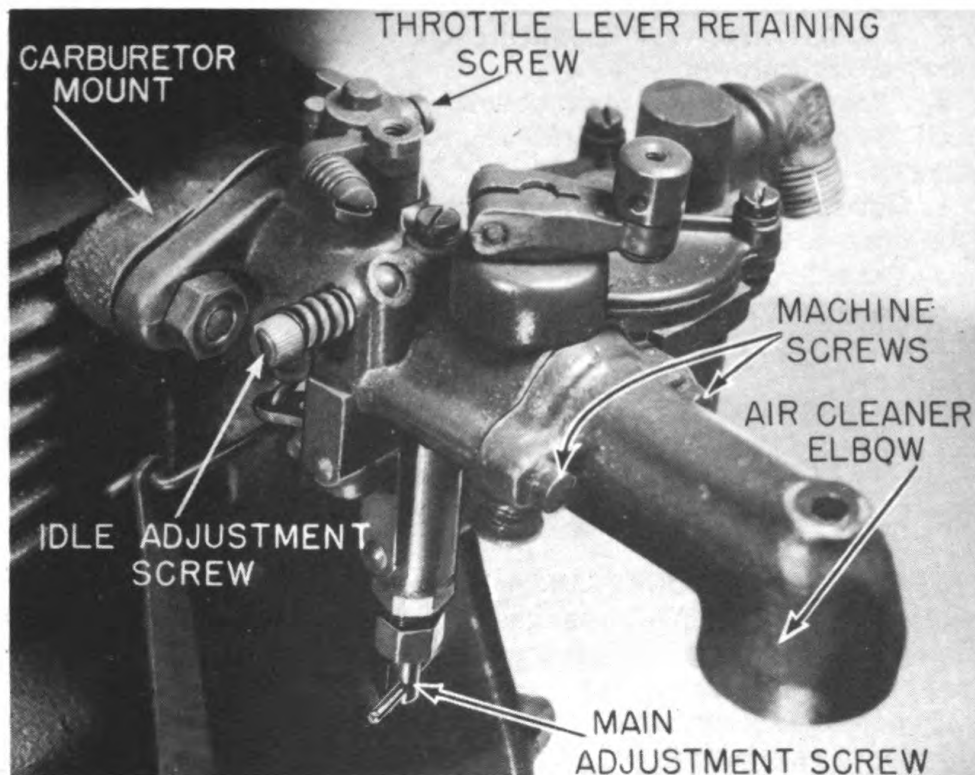
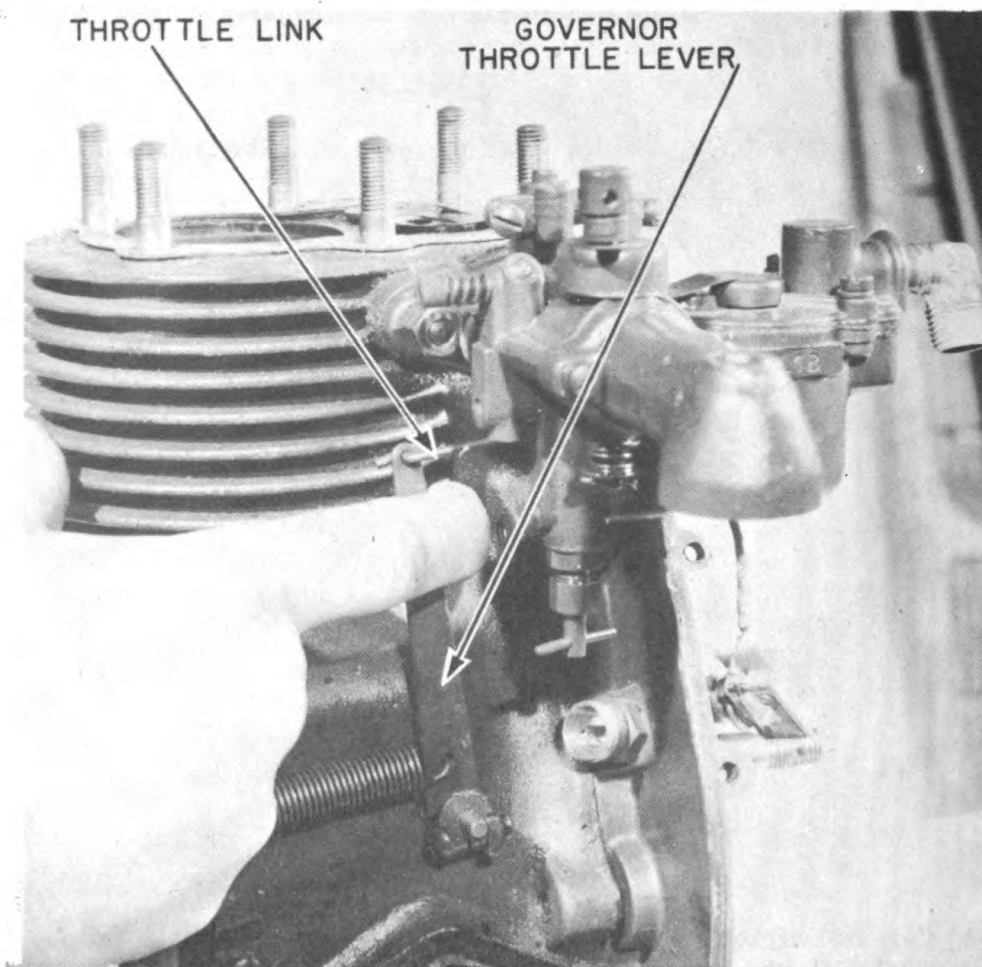

Fig 57. Carburetor and related parts.
Fig 65. Adjusting governor throttle lever.
- c. Detach air cleaner elbow and air cleaner mounting gasket from carburetor by loosening two machine screws holding elbow to carburetor. (Fig 57)
- d. Remove carburetor by loosening two hex nuts by which it is held to carburetor mount of engine cylinder block (fig 57). (Use 7/16-inch open-end wrench.) To remove carburetor, it is necessary to detach throttle link between flange of throttle shaft and governor throttle lever (fig 65). Take care not to lose throttle link.
(Fig 57) Proceed as follows:
- b. Replace throttle link (fig 65). Be sure link is inserted in outer hole of throttle shaft flange.
- a. To remove, loosen throttle lever retaining screw and lift lever off throttle shaft. (Fig 57)
- b. To install, place new lever on shaft and tighten retaining screw. (Fig 57)
- a. Close main adjustment screw (fig 57) by turning clockwise until it seats lightly (do not force), and then open same screw one full turn counterclockwise.
- b. Screw in idle adjustment screw (fig 57) until it seats and then open $3/4$ of a turn.
If engine underspeeds, tighten governor throttle lever by pushing lever toward blower as far as it will go, as shown in figure 65. (Figure 65 shows governor more exposed than is the case on a fully assembled engine; same adjustment can be made, however, with engine fully assembled.) If engine overspeeds, loosen lever by pushing it toward ready pull-starter.